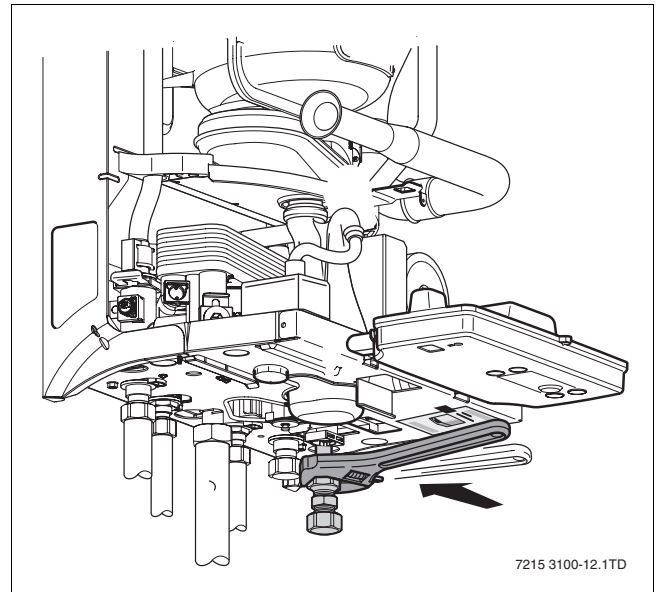

Fig. 12 Compression fitting
- Attach the compression fitting (→ fig. 12).